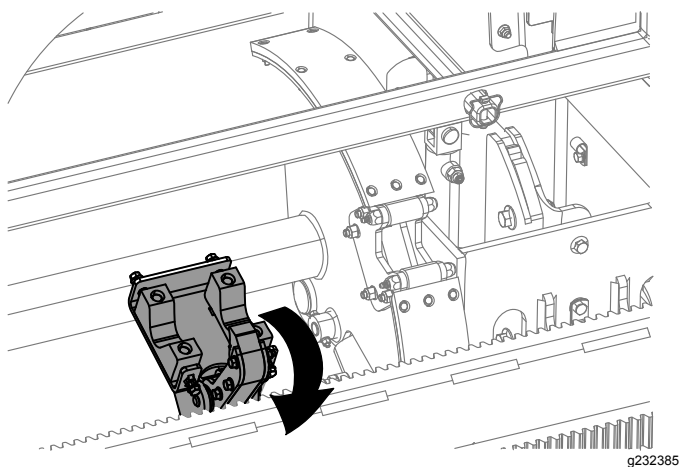

**Figure 35**
8. Release the rocker switch to proceed to the next step in the sequence (Figure 35).